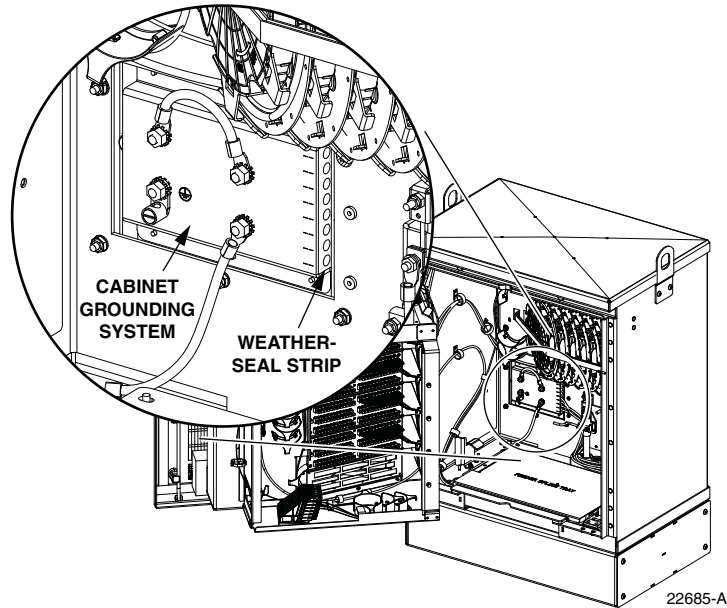

Figure 20. Cable Grounding System - Interior View
2. Locate the weather-seal strip attached to the right side of the cabinet grounding system as shown in Figure 20.